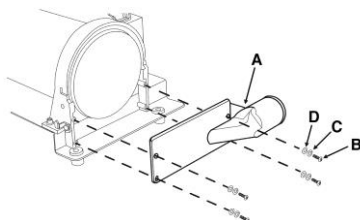

Fig. 20
2. Remove the dust chute (A) using the screws (B), flat washers (D) and spring washers (C) (Fig. 20).